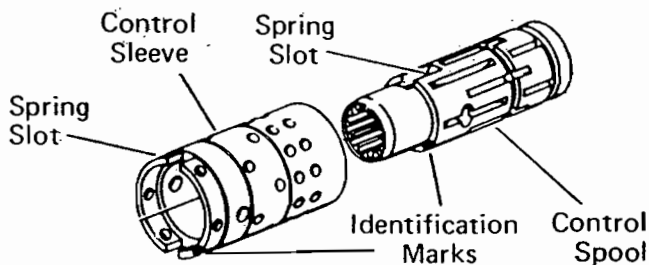

Figure 13
- 6 Assemble spool and sleeve carefully so that the spring slots line up at the same end. Rotate spool while sliding parts together. Some spool and sleeve sets have identification marks; align these marks as shown in Fig. 13. Test for free rotation. Spool should rotate smoothly in sleeve with finger tip force applied at splined end.